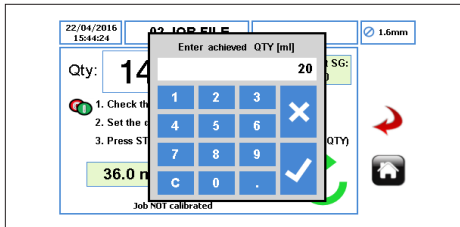

Figure 42 Enter Achieved Quantity
- ▶ Once the pump has delivered the expected quantity, the following message box will appear. Enter the quantity actually delivered as per *Figure 42*.